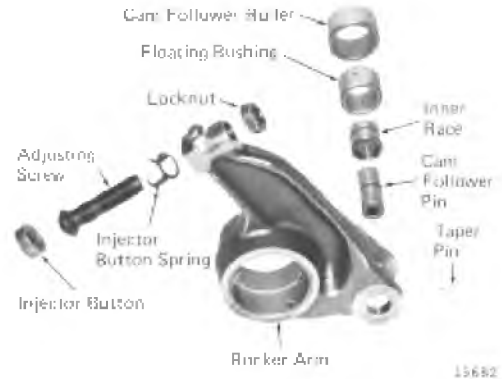

Fig. 2-30 - Injector Rocker Arm, Exploded View
1. Inspect the rocker arm bushings, cam follower rollers, inner race, Fig. 2-30, and rocker arm shaft for evidence of heat discoloration, excessive wear, shelling or scuffing due to lack of lubrication and for fatigue cracks.